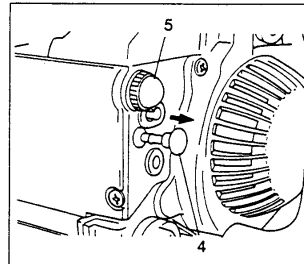

Fig. 2-3
1. Set ignition switch (1) to ON position.
\*Push priming bulb (5) several times so that fuel flows through bulb into carburetor. (if so equipped)(Fig. 2-3)
3. Pull choke knob to choked position (4). (Fig. 2-3)